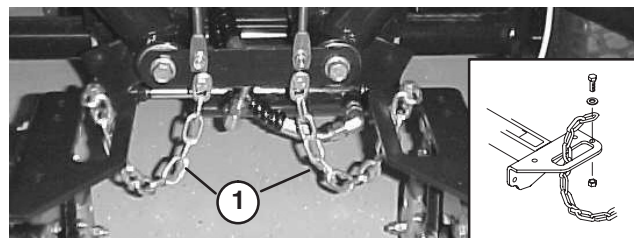

Figure 17
- Route a tipper chain up thru slot in end of each carrier frame. Secure tipper chain to top of carrier frame with a capscrew, washer and locknut (Fig. 17).